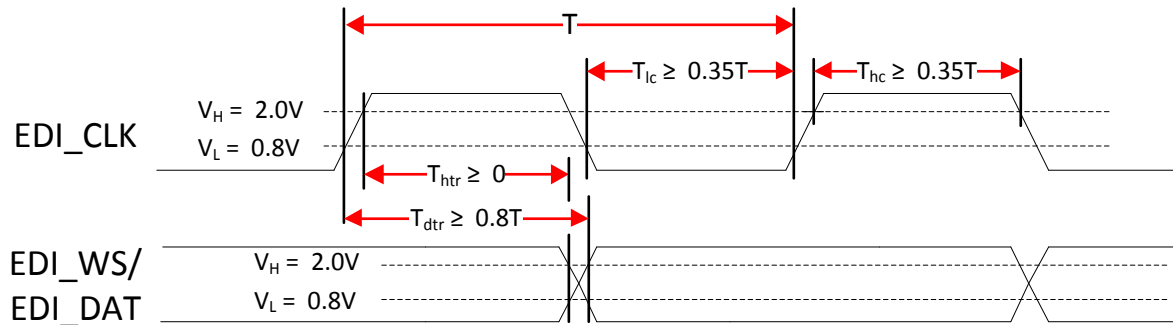

Figure 8.3-5. I2S master interface timing diagram
The operating characteristics of the I2S master controller at typical temperature (25°C) are shown in Figure 8.3-5 and Table 8.3-3. Example: I2S master transmitter with data rate of 0.512MHz (±10%) (0.512MHz = 16kHz x 32 , Audio Sampling Rate x Sample Bits).
(1)  $C_b$  = total capacitance of one bus line in pF. If mixed with high-speed mode devices, faster fall-times according to Figure 8.3-5 are allowed.